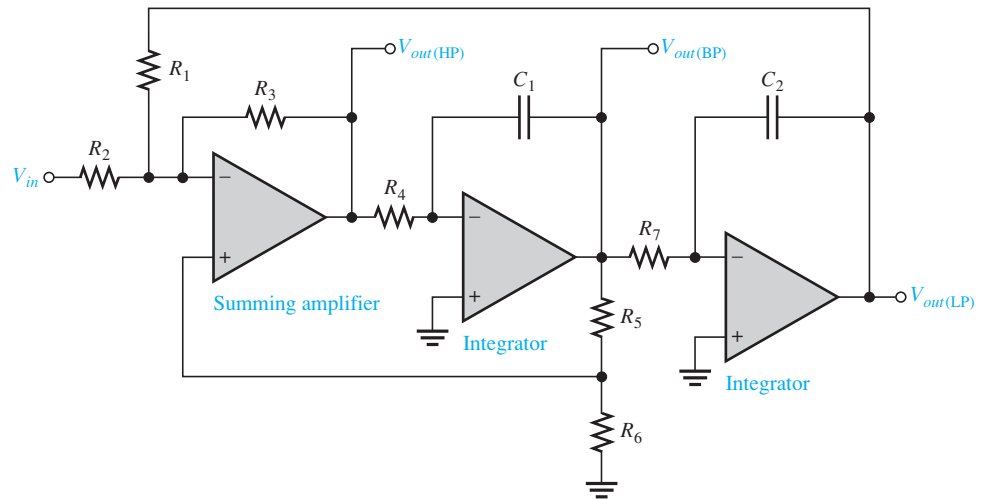

FIGURE 9-20 State-variable band-pass filter.
The state-variable or universal active filter is widely used for band-pass applications. As shown in Figure 9-20, it consists of a summing amplifier and two op-amp integrators (which act as single-pole low-pass filters) that are combined in a cascaded arrangement to form a second-order filter. Although used primarily as a band-pass (BP) filter, the state-variable configuration also provides low-pass (LP) and high-pass (HP) outputs. The center frequency is set by the RC networks in both integrators. When used as a band-pass filter, the critical frequencies of the integrators are usually made equal, thus setting the center frequency of the passband.